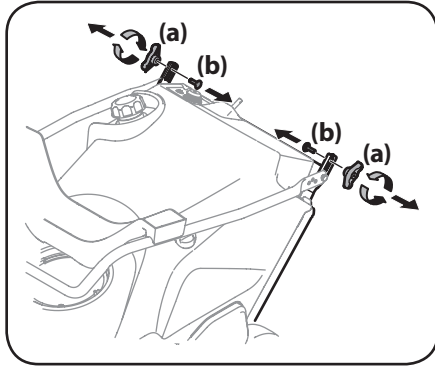

Figure 2-2
- Remove the wing knob (a) and carriage bolt (b) from the top of the lower handle. See Figure 2-2. It is not necessary to remove the shoulder screw and flange lock nut below the wing knob and carriage bolt unless the handle is loose in the carton.